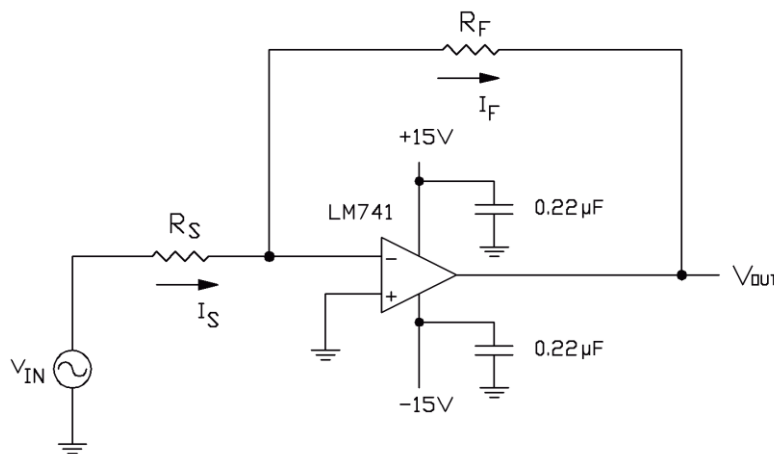

Figure 3
Figure 3 shows a basic inverting amplifier using an operational amplifier. Resistor,  $R_F$ , provides the negative feedback.
Construct the circuit shown in Figure 3 on the breadboard. Use the Tektronix AFG 1022 Function Generator to provide the voltage source,  $V_{IN}$ . Set the magnitude of this voltage source to  $1.0 V_{PEAK}$  and set the frequency,  $f$ , to 1000 Hz. Connect Channel 1 of the Tektronix TBS 1064 Oscilloscope to measure the voltage at  $V_{IN}$  (the output of the signal generator) with respect to ground. Connect Channel 2 of the Tektronix TBS 1064 Oscilloscope to  $V_{OUT}$ . You are to **design** an amplifier with the following characteristics:
A copy of Figure 3 with all component values shown must be included in the report. The report should also contain your design equations and a figure showing the input and output waveforms. The figure must be properly annotated which means a title, axis labels and scales. The waveforms must be identified (i.e.  $V_{OUT}$  and  $V_{IN}$ ). Just Ch 1 and Ch 2 is not sufficient. Calculate the actual gain from the voltages in your figure and include this calculation in your report.
**Show Figure 3 with component values here**